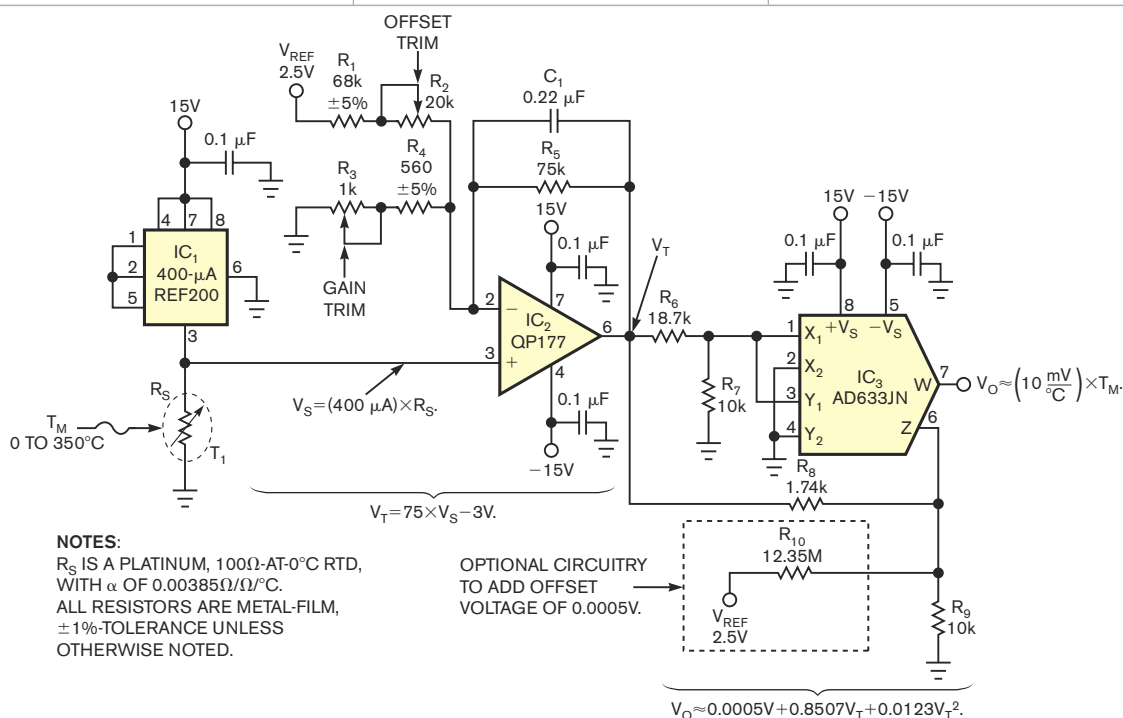

Figure 1 This RTD circuit uses a second-order polynomial to linearize the output of the sensor.
0.00392Ω/Ω/°C and follow the US curve. The circuit in **Figure 1** uses a standard RTD to measure temperature over the extended range of 0 to 350°C, an output voltage of 0 to 3.5V, and overall system accuracy greater than 0.5°C. The following linear **equation** expresses this sensor system: